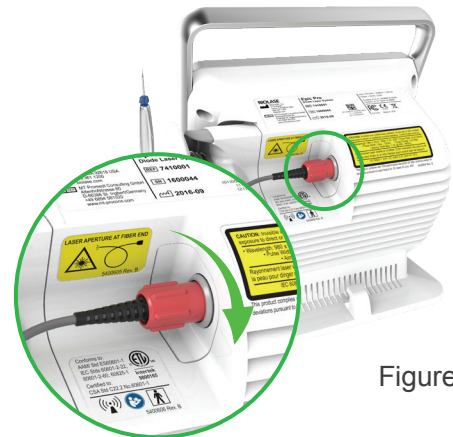

Figure 7.3
- Verify the power switch is in the OFF (O) position
- Attach the Fiber Optic Cable to the console by aligning the center of the fiber SMA connector with the center of the port at the rear of the console, gently inserting the connector into the port until snug, and turning it clockwise until secure (Figure 7.3)